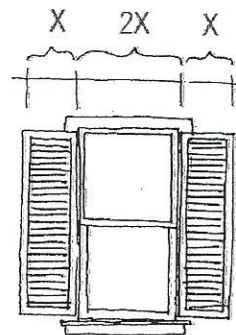

Figure 4a: Allowed
- Door and window shutters shall be sized to cover the complete opening (Figures 4a and 4b).